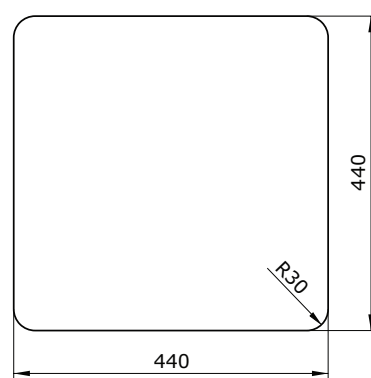

Fig. 1.9
- When installing as an Inset Sink, a chamfer in the underside of the worktop may be required for the overflow body **(Fig. 1.9)**.